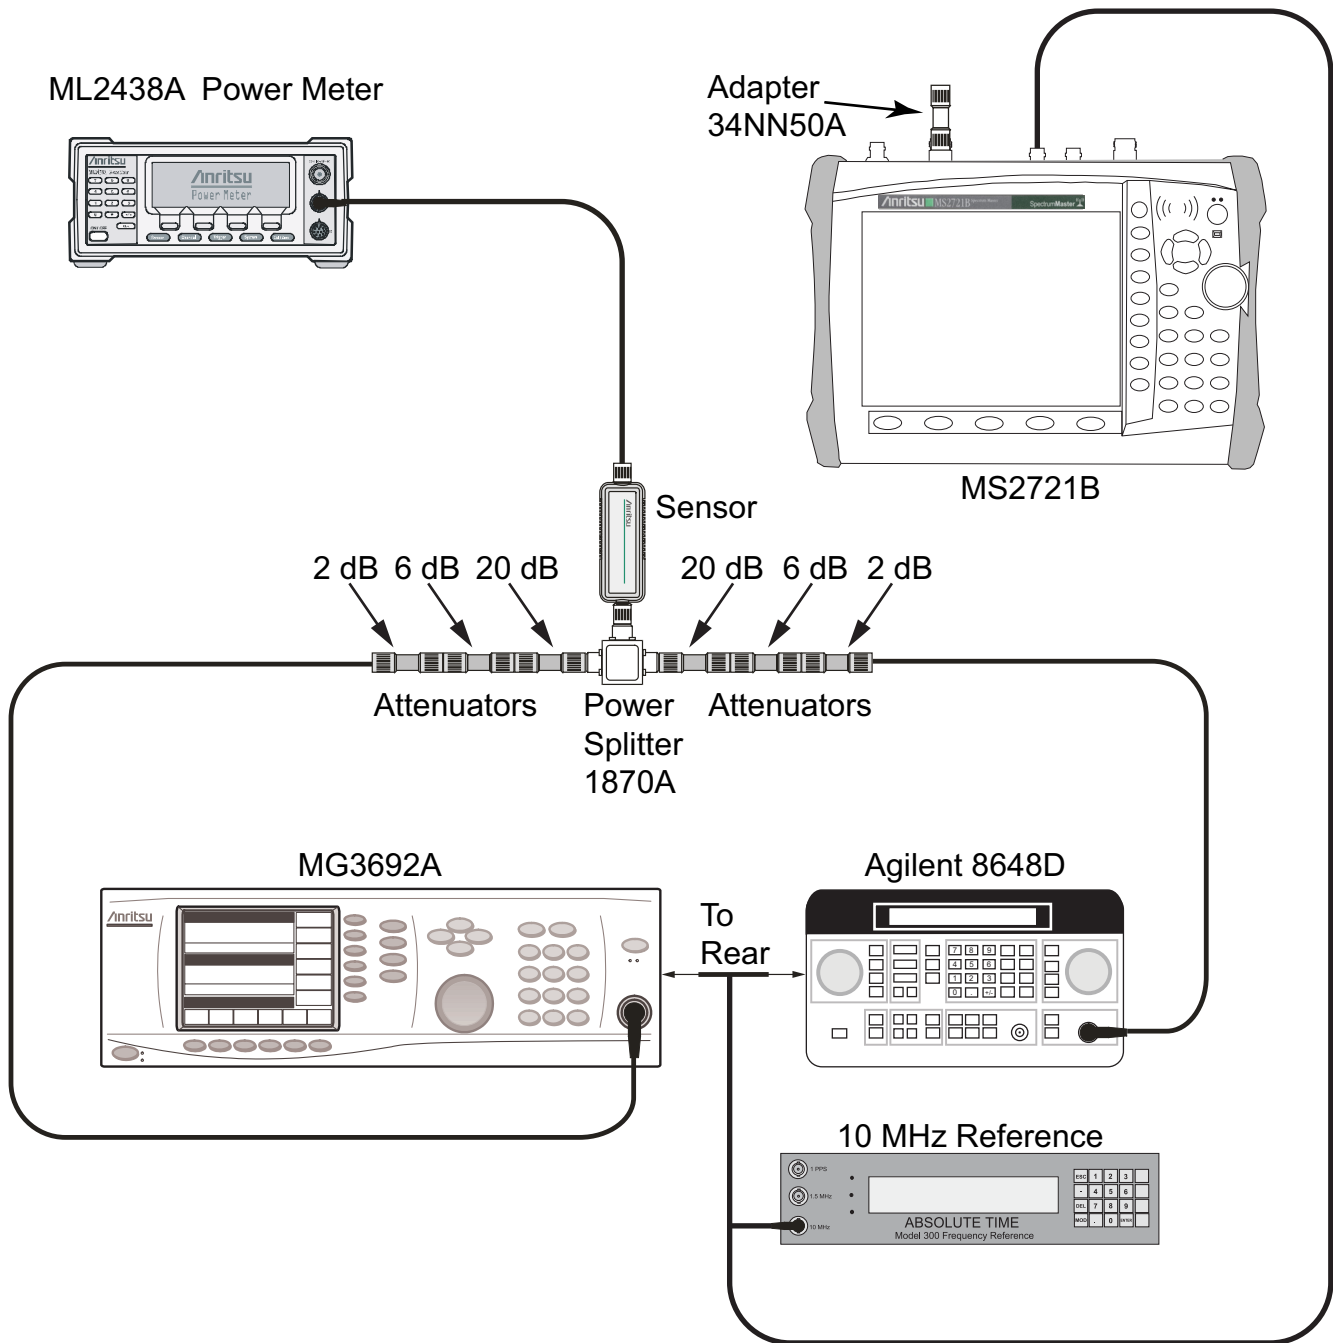

Figure 2-5. Third Order Intercept (TOI) Verification Characterization Setup
2. Connect the equipment as shown in Figure 2-5. The splitter will be used as an RF combiner (the normal RF output connections will become input connections, and the normal input connection will become the RF output connection).
5. Connect the power sensor to the splitter "output" and adjust the power of the MG3692x so that -20 dBm appears at the splitter "output" (approximately +16 dBm on the MG3692x), as shown in Figure 2-5.